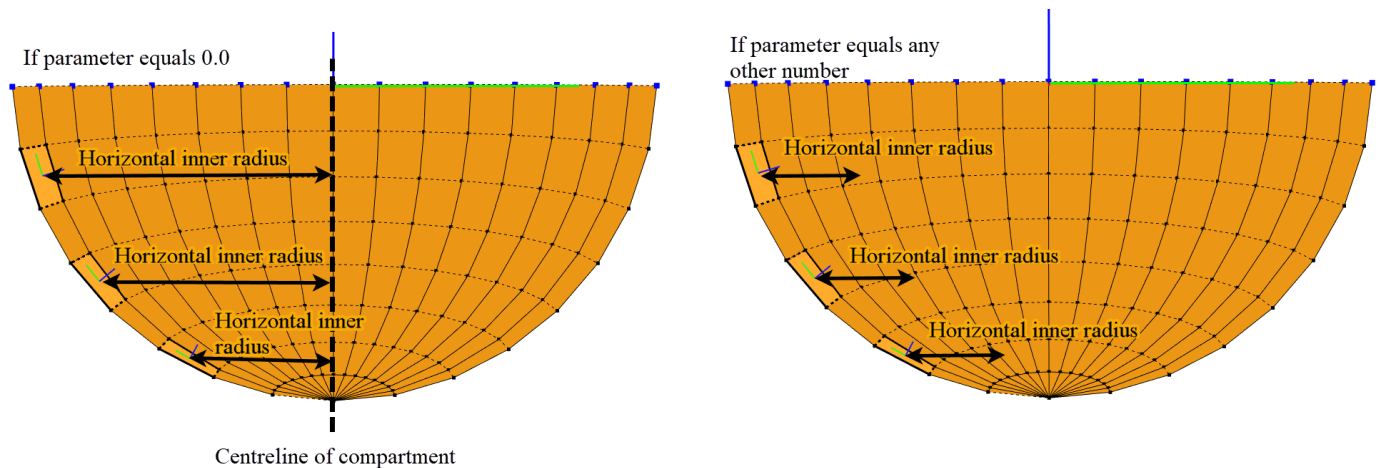

Figure 5 Horizontal radius of inner water fluid
- If this set to 0.0: it means that AquaSim calculates where the centreline is and then find the horizontal distance (or radius) from each element to the centreline. This is then applied to calculate added mass on the outside of the compartment for each element. See the leftmost illustration in Figure 5. Note that the distance to the centre of the compartment horizontally is multiplied with the normal vector of the element such that for a square box, the radius is the cross section distance.
- If this is a positive value: then this value is applied as the horizontal inner radius for all elements, irrespectively as to where the elements are located with respect to the centreline. See the rightmost illustration in Figure 5.